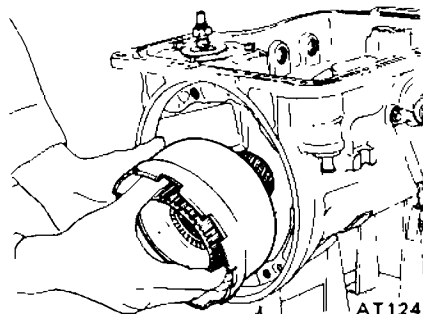

Fig AT-58 Removing connecting shell
- 11 Remove connecting shell, rear clutch hub and front planetary carrier as a unit. See Figure AT-58.